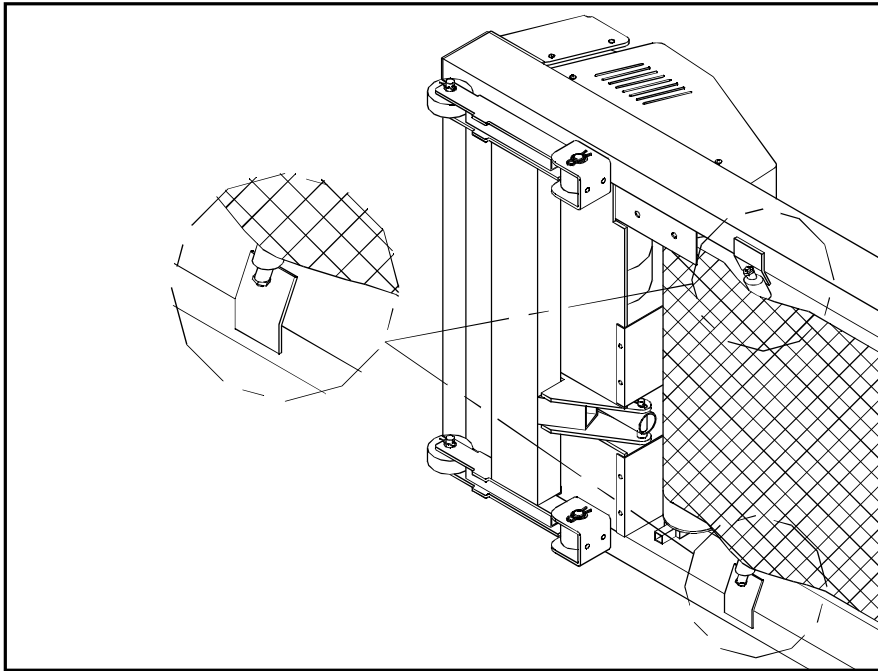

FIG.1
1. Lay the treadmill on its side. Make sure the running belt is in position in the tracks of the Belt Alignment Guides on the underside of the machine. (see Fig. 1).